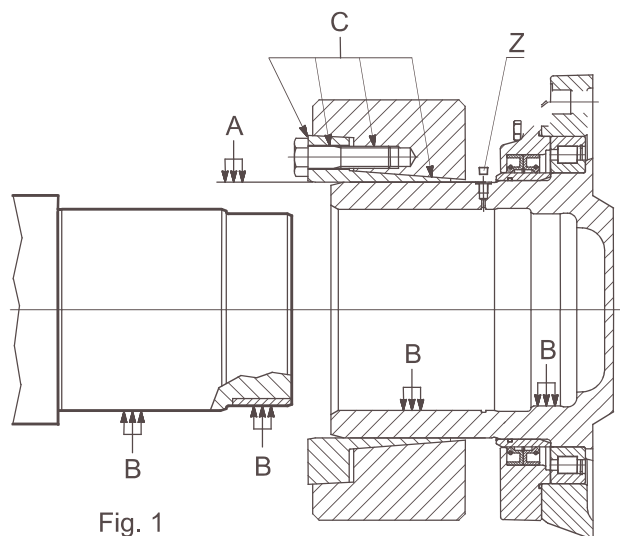

Fig. 1
- Lubricate the coupling housing (fig.1 point A).
- If the coupling is being overhauled, disassemble it and grease the zones marked "C" (see fig. 1).
- Remove cap "Z" (see fig. 1) in order to bleed off the air when fitting the shaft.
- Fit the coupling on to the gear unit without tightening the bolts, leaving cap "Z" loose (see fig. 1).